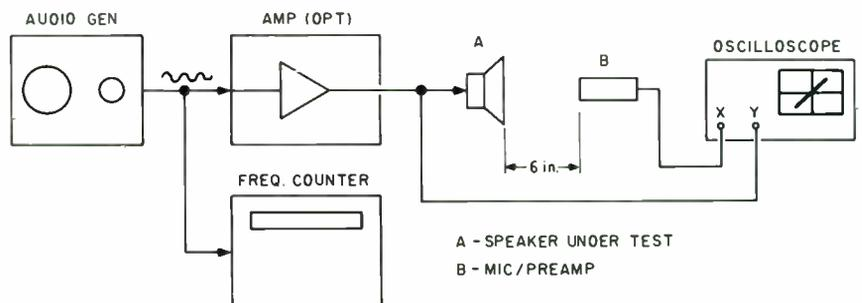

FIGURE 10: Setup for measuring relative acoustic centers of drivers.
**ACOUSTIC CENTER.** Follow this procedure and measure for each driver individually. Figure 10 shows my test equipment and setup.